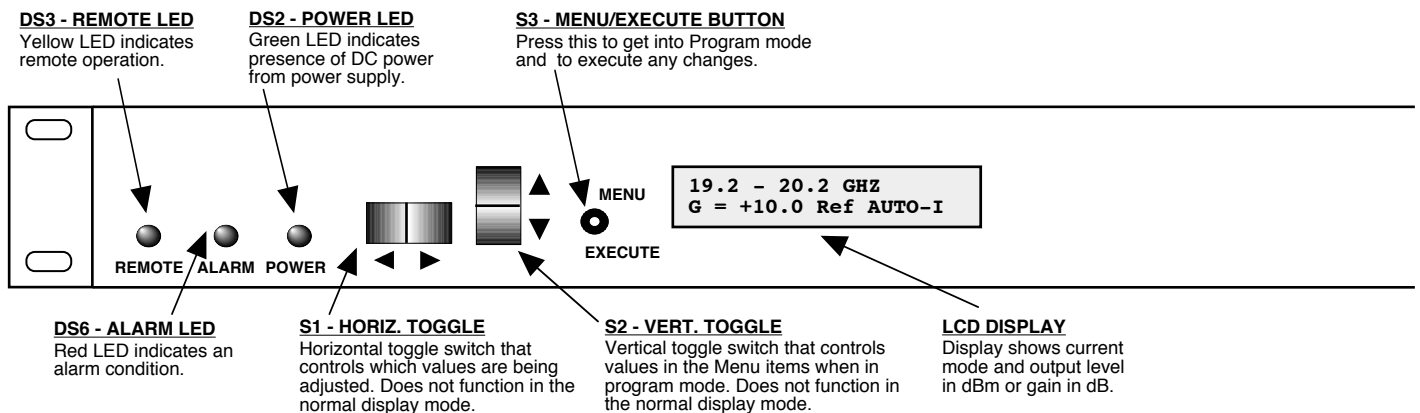

FIGURE 2.2 3116-192 Front Panel Controls and Indicators
6. Be sure DS2 (green, DC Power) is on and DS6 (red, Alarm) is off (Figure 2.2).
Alarm indications appear on the LEDs (see Figure 2.2).